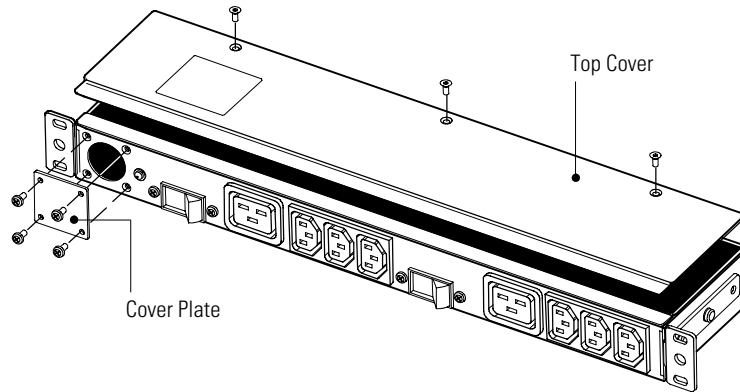

Figure 13. Hardwired Installation
4. Use a T10 TORX® driver to remove the three #6 TORX flat-head screws from the ePDU's top cover and retain (see Figure 13).
6. Use a Phillips screwdriver to remove the four screws from the cover plate on the ePDU front panel and retain (see Figure 13).